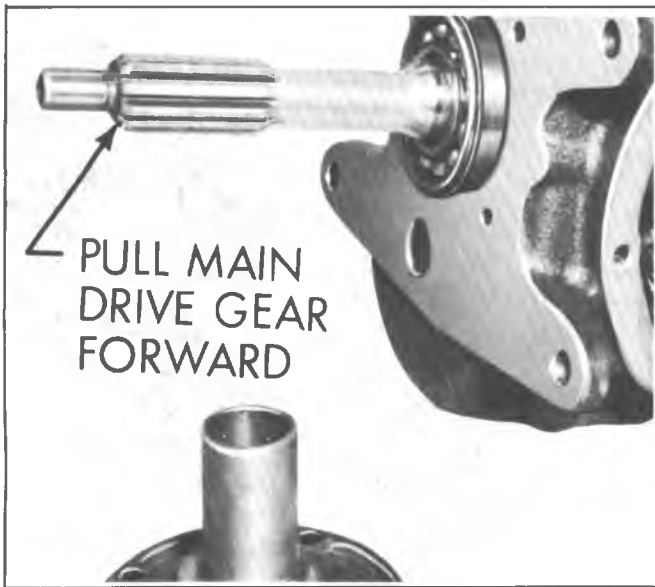

Fig. 7B-2J—Removing Clutch Gear Bearing
8. Remove reverse idler gear stop ring. Use a long drift or punch through the front bearing case bore and drive the reverse idler shaft and woodruff key through the rear of the case (Fig. 7B-6J).